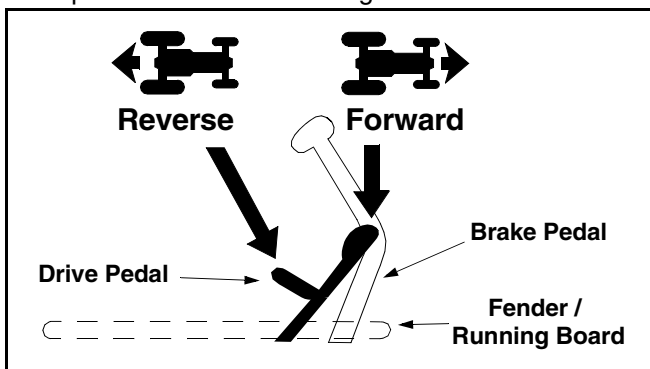

Figure 12
- To travel FORWARD, slowly depress the upper portion of the drive pedal forward until the desired speed is achieved. See Figure 12.
- To travel in REVERSE, check that the area behind is clear then slowly depress the lower portion of the drive pedal with the ball of your foot (NOT your heel) until the desired speed is achieved. See Figure 12.